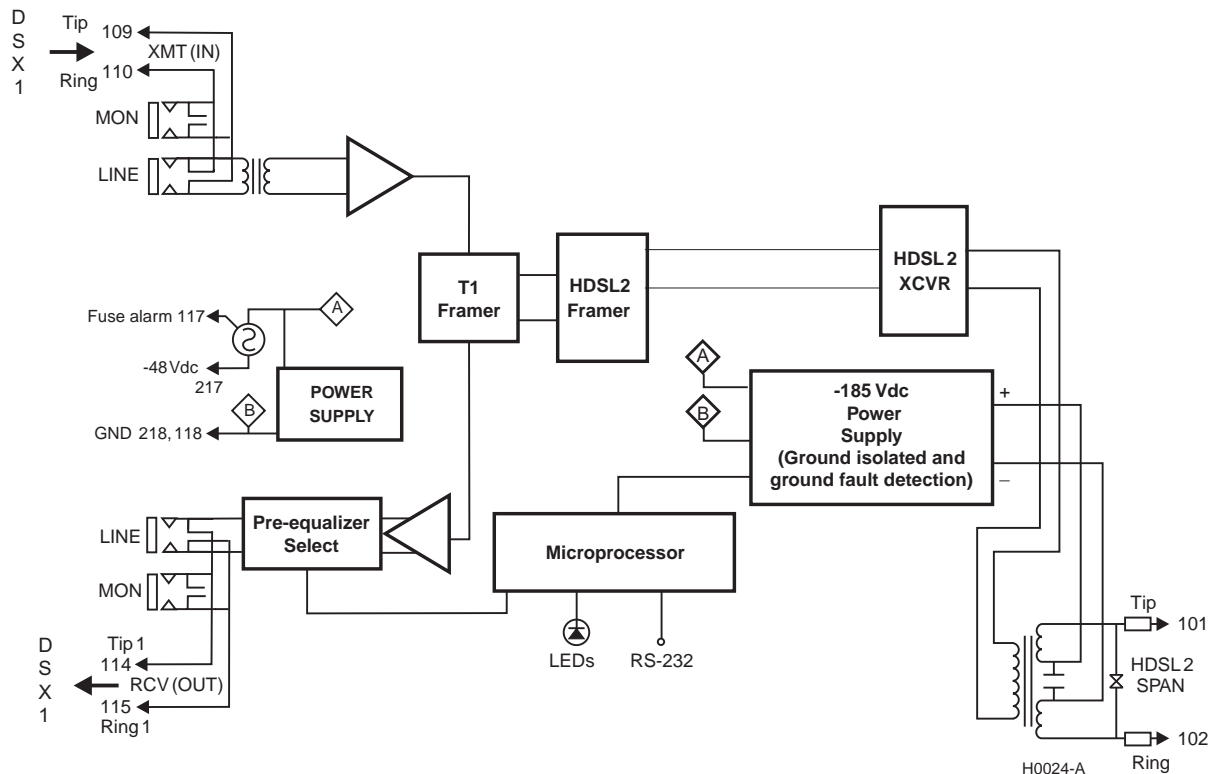

Figure 31. H2TU-C Block Diagram
Figure 31 shows a block diagram of the H2TU-C. The H2TU-C receives a 1.544 Mbps DSX-1 data stream from the DSX-1 digital cross-connect interface. The H2TU-C contains a DS1 frame synchronizer controlled by an 8-bit microprocessor that determines the type of framing on the DS1 stream. The H2TU-C synchronizes to the type of framing detected. The H2TU-C recognizes SuperFrame (SF), including D4 or Extended SuperFrame (ESF).